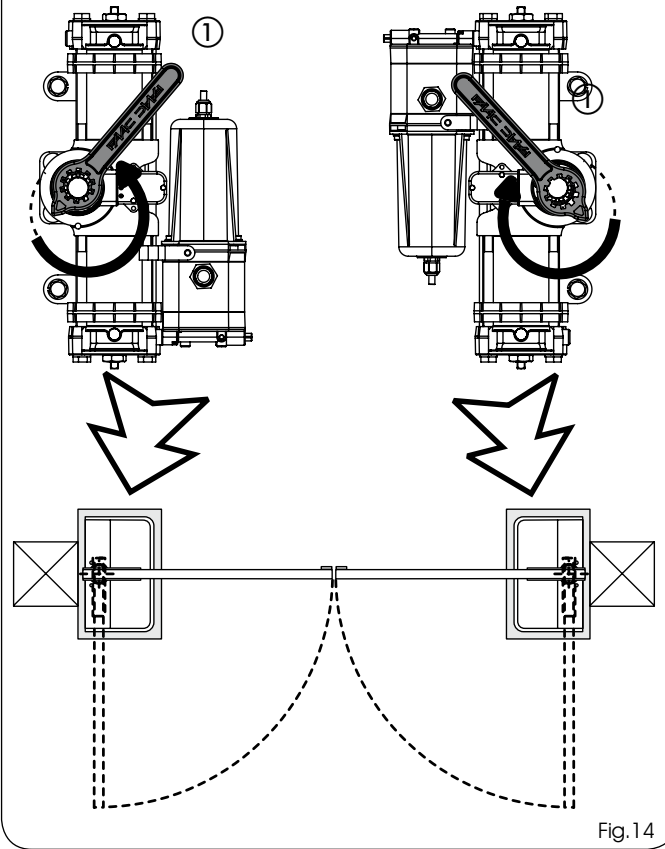

Fig.14
- 5) Turn the operator pinion with the supplied key, **in the gate closing direction** as shown in Fig. 14, up to the internal stop point of the piston, and remove the key.